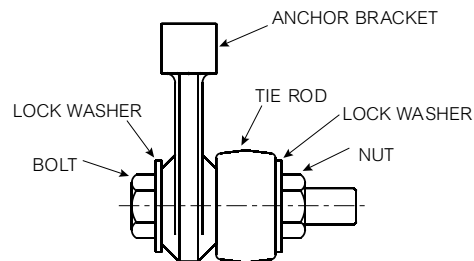

Figure 12 — Anchor Bracket and Tie Rod
- 8.0 Install the anchor bracket to the torque arm's tie rod as shown in Figure 12. Install the provided bolt, lock washers and nut, apply Loctite 242 or equivalent to threads. Tighten the bolt until seated against the anchor bracket.